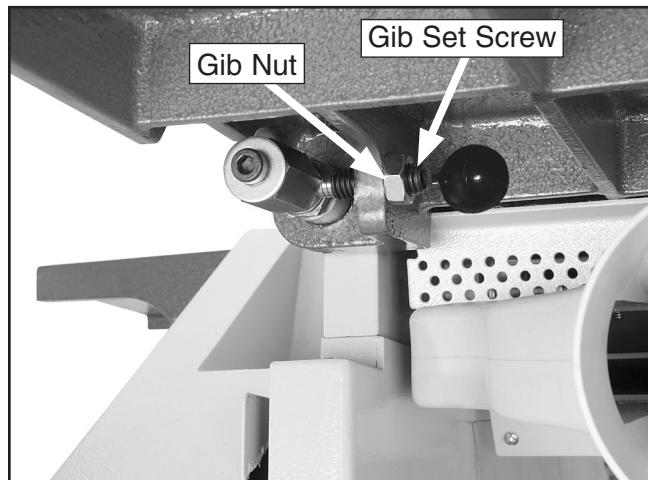

Figure 74. Outfeed table gib control.
3. Repeat Steps 1-2 with the outfeed table gib control (Figure 74).